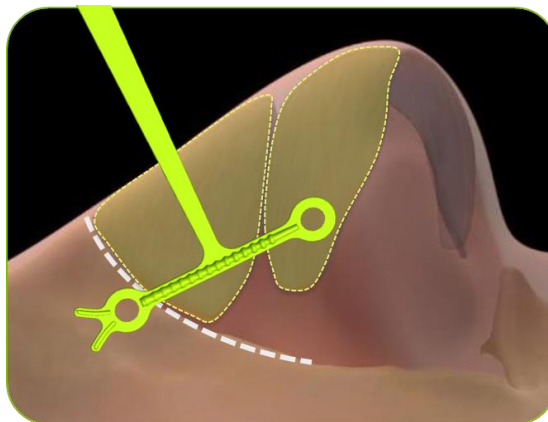

Figure 4: Implant Positioning Guide superimposed on upper and lower lateral cartilage
3. Use the Implant Positioning Guide to mark the surgical trajectory as shown in **Figure 4** using a standard surgical pen. The holes provided on the Implant Positioning Guide allow for marking the base of Implant forked tip and the spherical end of the atraumatic proximal tip. The distal mark correlates to the final position of the cannula tip prior to Implant delivery.